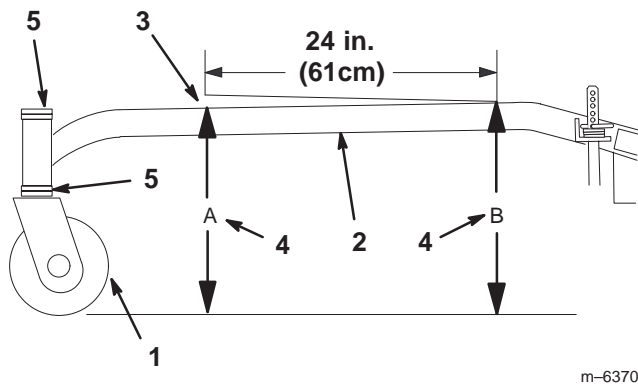

Figure 68
The carrier frame must have a pitch of a 1/4 inch (6 mm) over the length of 24 inches (61 cm) on the carrier frame (Fig. 68).
- Measure out 24 inches (61cm) on the carrier frame (Fig. 68).
- Measure carrier frame height at location **A** (Fig. 68).
- Measure carrier frame height at location **B** (Fig. 68).
- The height at location **A** must be a 1/4–3/8 inch (6 mm – 10 mm) lower than location **B** (Fig. 68).
- If the carrier frame is not correct, move caster spacers to make it a 1/4–3/8 inch (6 – 10 mm) pitch (Fig. 68). Move spacers from top or bottom to make the correct pitch.